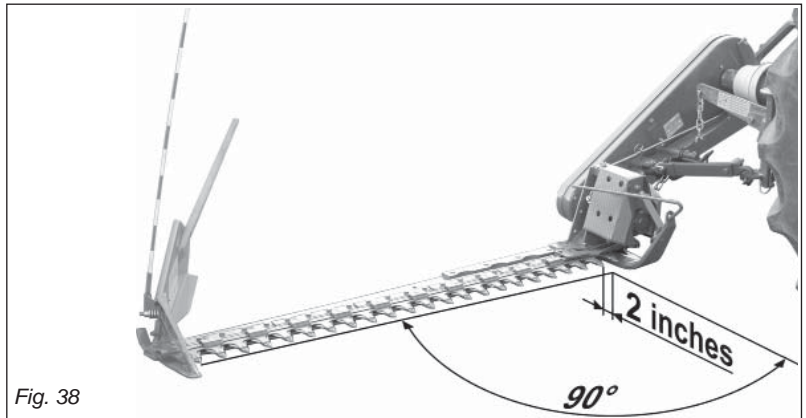

Fig. 38
- Fit the sickle bar by adjusting the tractor tie-rods so that, when the sickle bar attachment is fitted to the three points on the tractor, the external tip of the cutting arm is approximately 2 inches forward with respect to the arm base (Fig. 38).